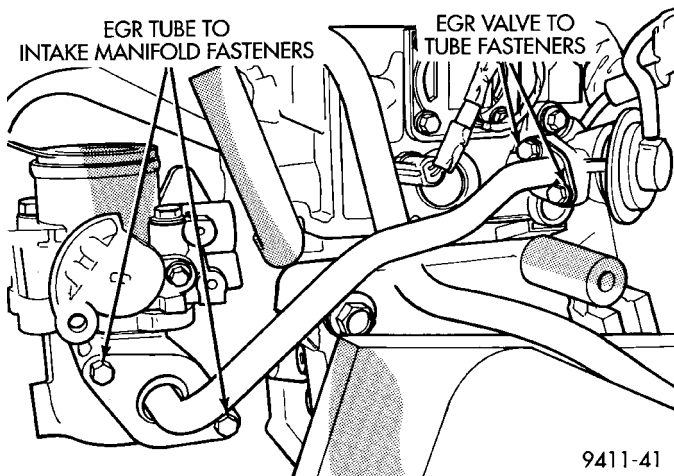

Fig. 17 EGR Tube Assembly
(18) Remove EGR tube bolts at the valve and at the intake manifold (Fig. 17). Remove tube from engine.